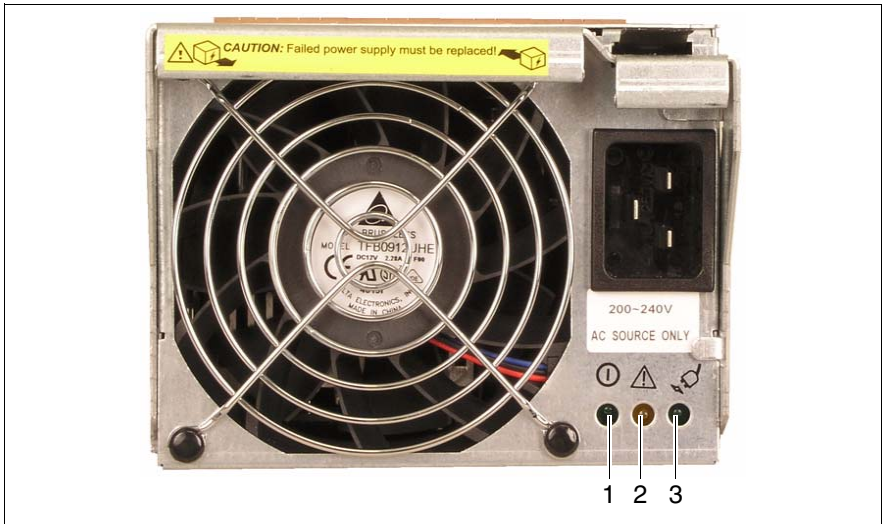

Figure 90: Power supply unit: LEDs
1 If the large fan on the front fails, the power supply unit switches off. If one of the small fans on the rear fails, the power supply unit continues to run. See figure 90 for the location of the power supply unit fans.
- ▶ Check the FAN LED of the power supply units on the back of the system (see figure 90 on page 141) to determine which power supply unit is defective.